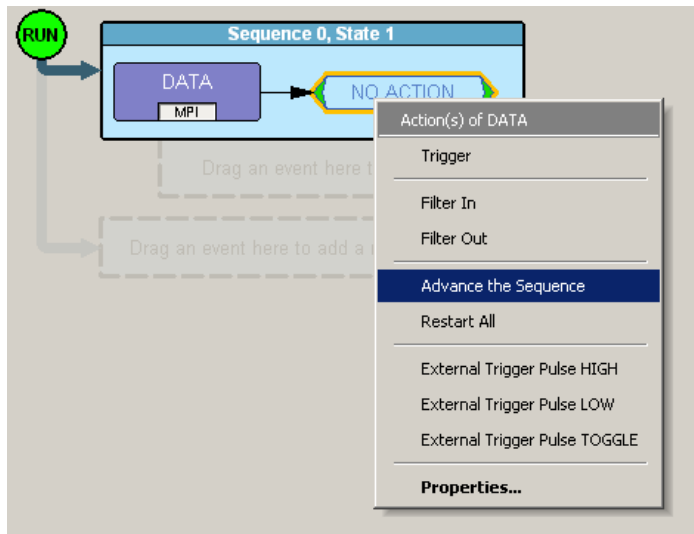

Figure 12.37 Example 5: Advancing the Sequence
Step 3 Right click in the **Action** box to the right of the Data button. The Action pop-up menu appears (Figure 12.37).